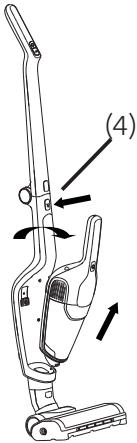
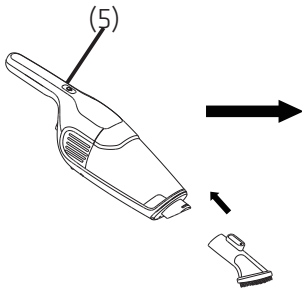

Fig.4-2a
Fig.4-2b
Press down the release button of sub-unit (4) (see Fig.4-2a), grasp the handle of sub-unit to remove it by following the arrow shown, and then press down the power button of sub-unit (5) (see Fig.4-2b), the sub-unit enters working condition, and you can press the switch (5) to make it stop working.